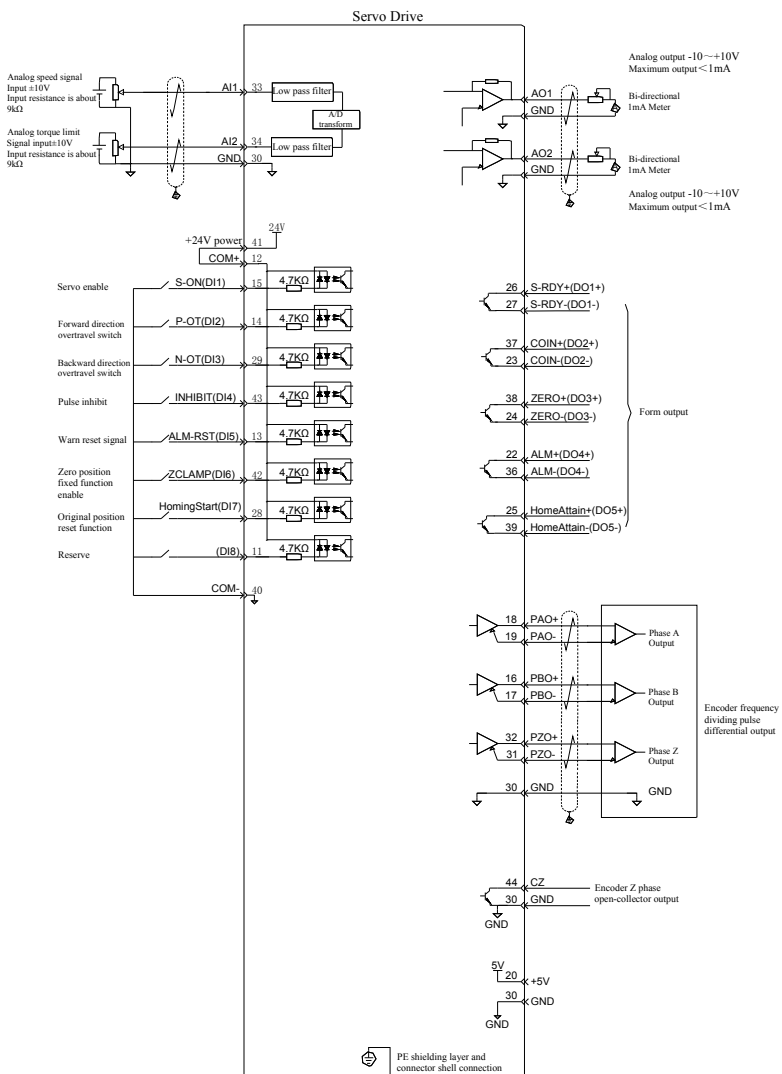

Fig. 5-6 Speed mode wiring diagram
- (1) Connect the power supply of the servo main circuit and control circuit correctly, as well as the motor power line and encoder line. After power-on, the servo panel displays “xxxx0”, indicating that the servo power supply is correctly wired and the motor encoder is wired correctly.
- (2) Perform servo JOG test run by pressing the button to confirm whether the motor can run normally.
- (3) Refer to Figure 5-6 for wiring instructions to connect the necessary DI/DO signals and analog speed commands in the X5 terminal.
- (4) Make settings related to the speed mode.